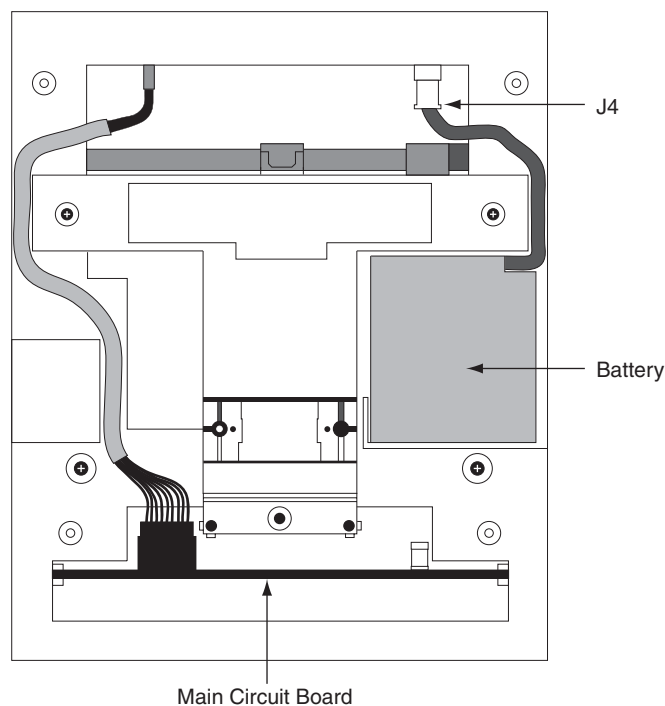

Figure 3
7. Install the battery into the chassis. Route the cable as shown and attach to J4 on the top panel PCB as shown in figure 3 below.